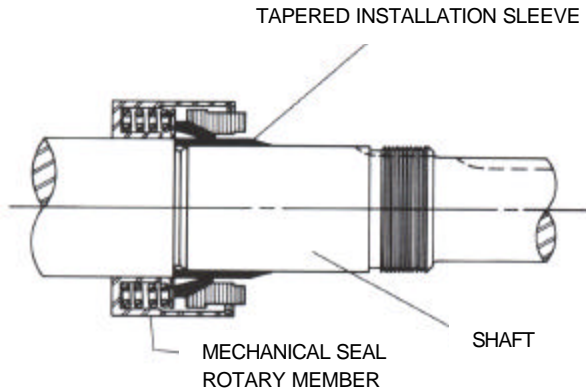

FIGURE 13
- Place tapered installation sleeve (furnished with H, HL, K, KK, L, LQ and LL size replacement mechanical seals) on shaft. Refer to Figure 13. Coat inner diameter of seal rotary member, tapered installation sleeve and the shaft with a generous quantity of non-detergent SAE 30 weight oil. Place rotary member on shaft over sleeve and against hub of rotor. Refer to Figure 14.